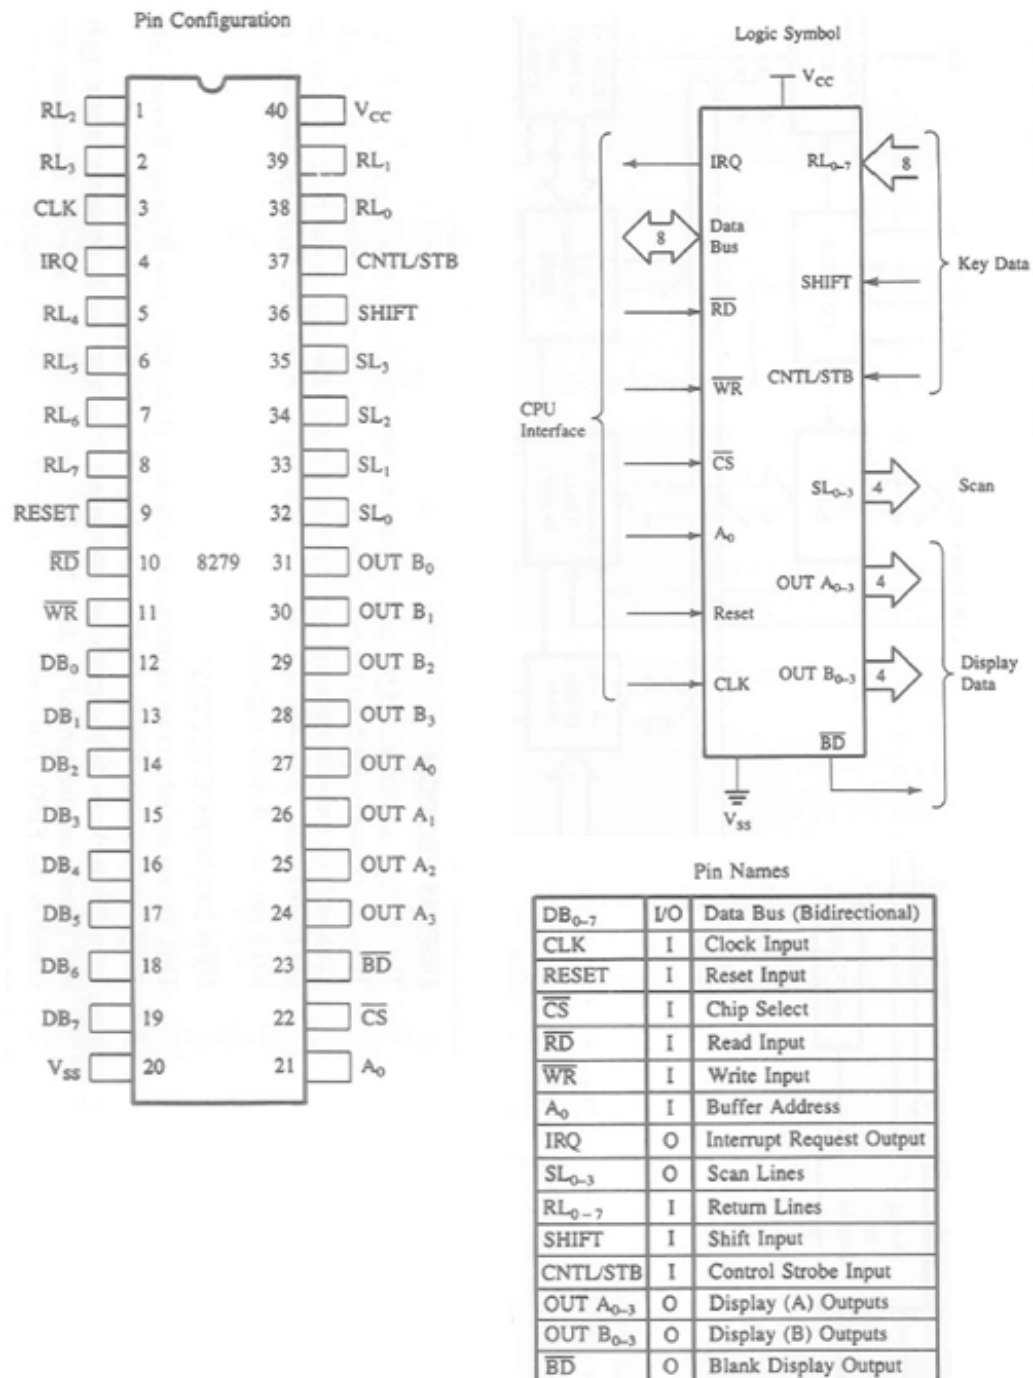

Figure 3.9 8279 Logic Pinout
- ❖ The 8279 (Figure3.9) is a 40 pin device with two major segments: